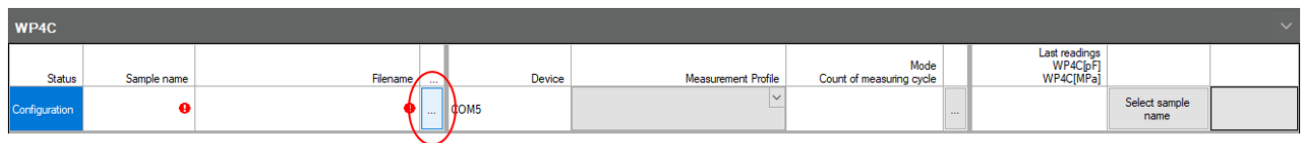

Figure 4 Open \*.bhdX File
1. Select the button with the ellipsis as depicted in Figure 4.